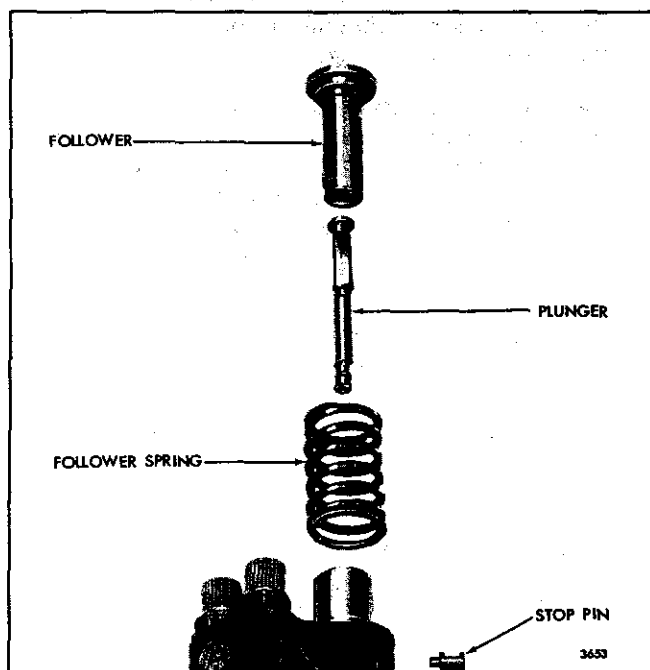

Fig. 35 - Injector Plunger, Follower and Relative Location of Parts
26. Refer to (Fig. 35) and slide the head of the plunger into the follower.